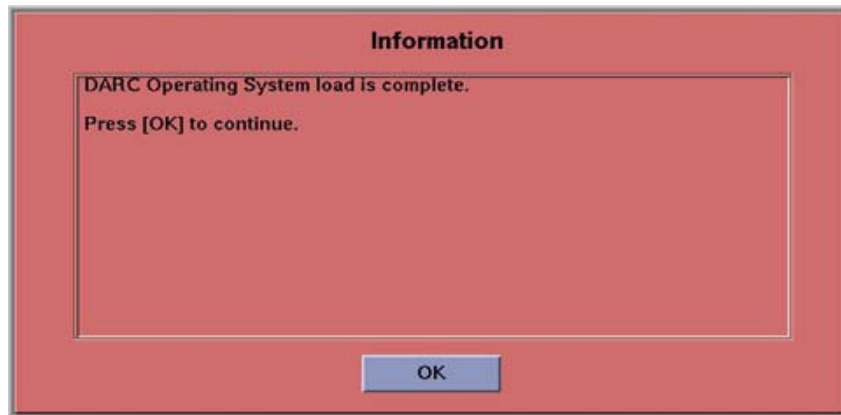

Figure 1-12 DARC OS Load Complete Pop-up Window
5.) When the DARC OS load has completed, a pop-up message is displayed. See Figure 1-12.